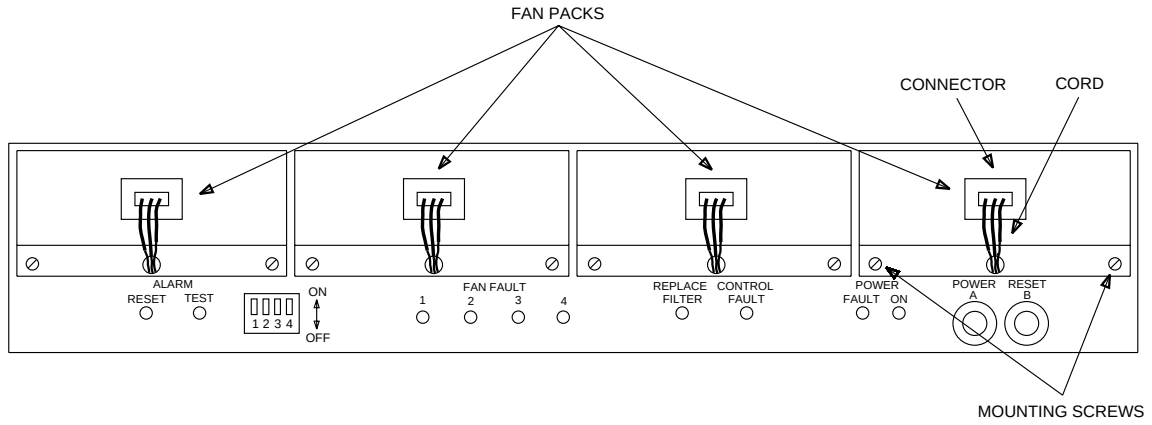

Figure 1. DDM-2000 Fan Shelf — Front Cover Removed
6. Locate 4-part switch to left of center on front of fan shelf. See Figure 1.